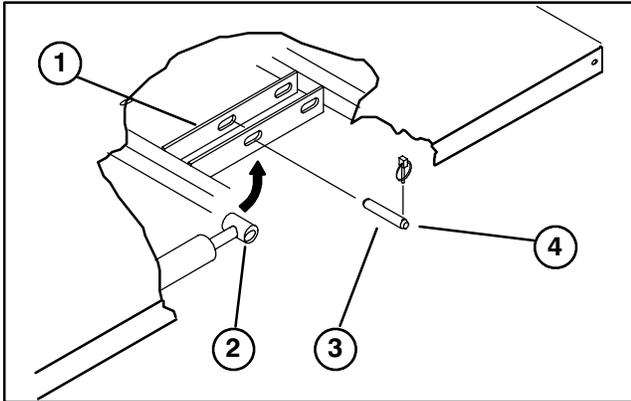

Figure 1
1. With bed lowered, remove clevis pins and lynch pins securing each cylinder rod end to bed mounting plates (Fig. 1).